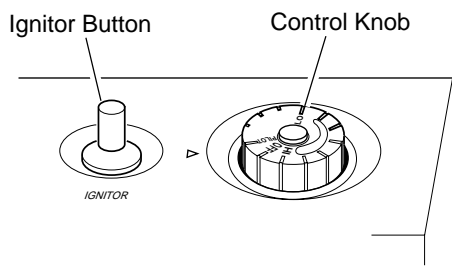

Figure 24 - Control Knob In The OFF Position
- Wait five (5) minutes to clear out any gas. Then smell for gas, including near the floor. If you smell gas, **STOP!** Follow "B" in the safety information, column 1. If you don't smell gas, go to the next step.
- Turn control knob counterclockwise  to the PILOT position. Press in control knob for five (5) seconds (see Figure 24).